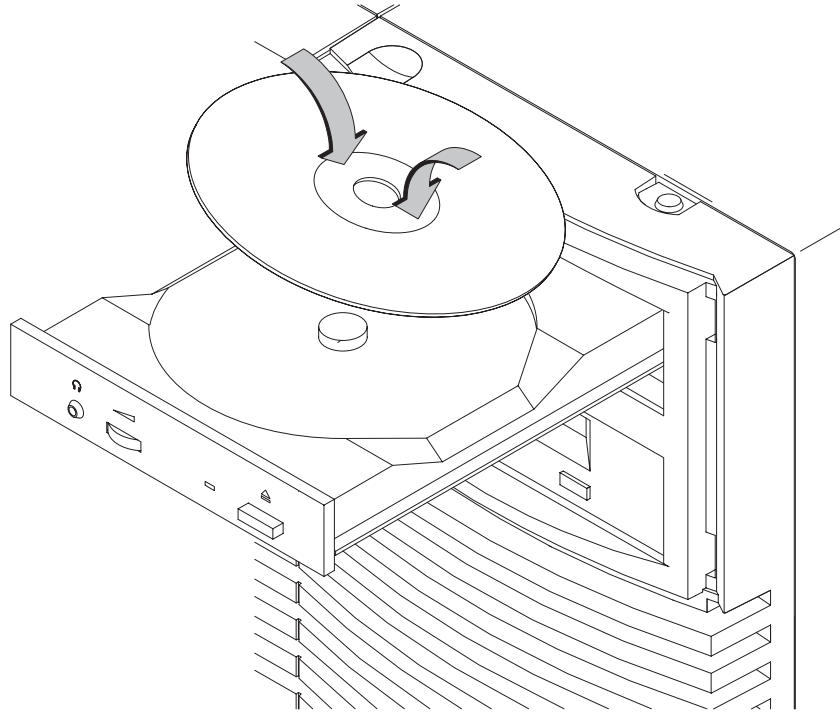

Figure 2-3. Placing the CD-ROM Disc in the Disc Tray
3. Hold the disc by the edges with the label side up and place it in the disc tray as shown in Figure 2-3.
4. Press down gently on the center of the CD-ROM disc to make sure it is seated on the disc tray hub, shown in Figure 2-3.